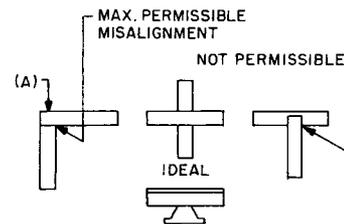

Fig. 10—Contact Alignment
3.11 Contact Alignment (S1, S2, and S3 Switches): The contacts shall line up (Fig. 10) so that the width on the contact surface of each contact bar falls wholly within the length of its mating bar. The maximum permissible misalignment is shown in Fig. 10(A). Gauge by sight.